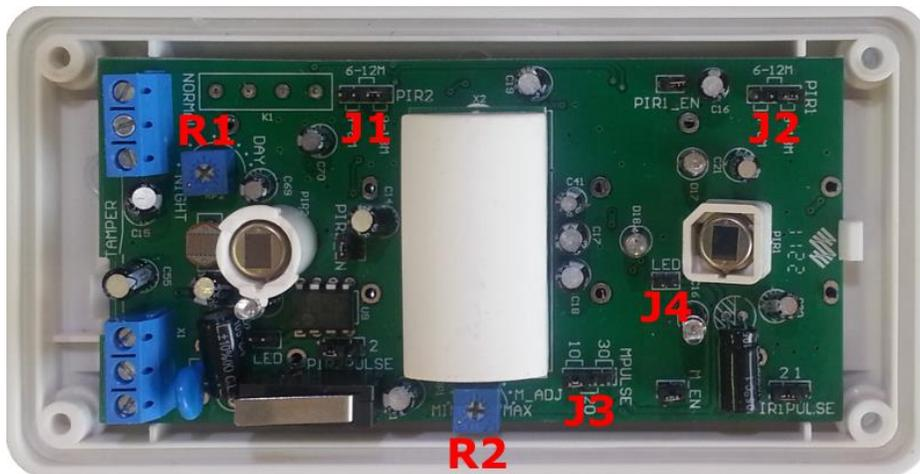
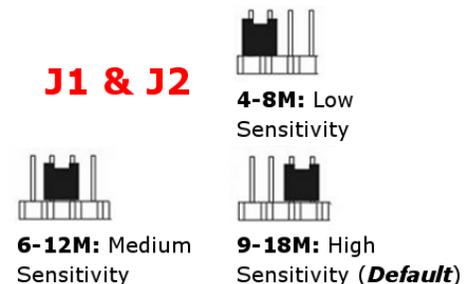

Figure 4
Figure 5
5. Separate the front cover to reveal the sensor circuit board (Fig. 4):
The following steps are **only** necessary if you wish to reduce the motion sensor's sensitivity due to false positive activation or to respond only to larger targets. It may be helpful to enable the alarm LEDs (disabled for power conservation by default) when testing sensitivity changes by closing J4 (Fig. 4). LED colors correspond to the following sensor states: Green = top and / or bottom PIRs, Yellow = Microwave, Red = Both top and bottom PIRs and microwave.
1. Move J1 and J2 (Fig. 4) to the desired sensitivity (Fig. 5). Factory default is for maximum sensitivity.
1. To adjust the microwave sensor's range, rotate R2 (Fig. 4) counterclockwise to decrease, and clockwise to increase (Fig. 6).
3. Move J3 (Fig. 4) to the desired sensitivity (Fig. 6). Factory default is for maximum sensitivity.
1. Adjust R1 (Fig. 4) to the desired hours of operation (Fig. 7). Factory default is for 24 hour operation.